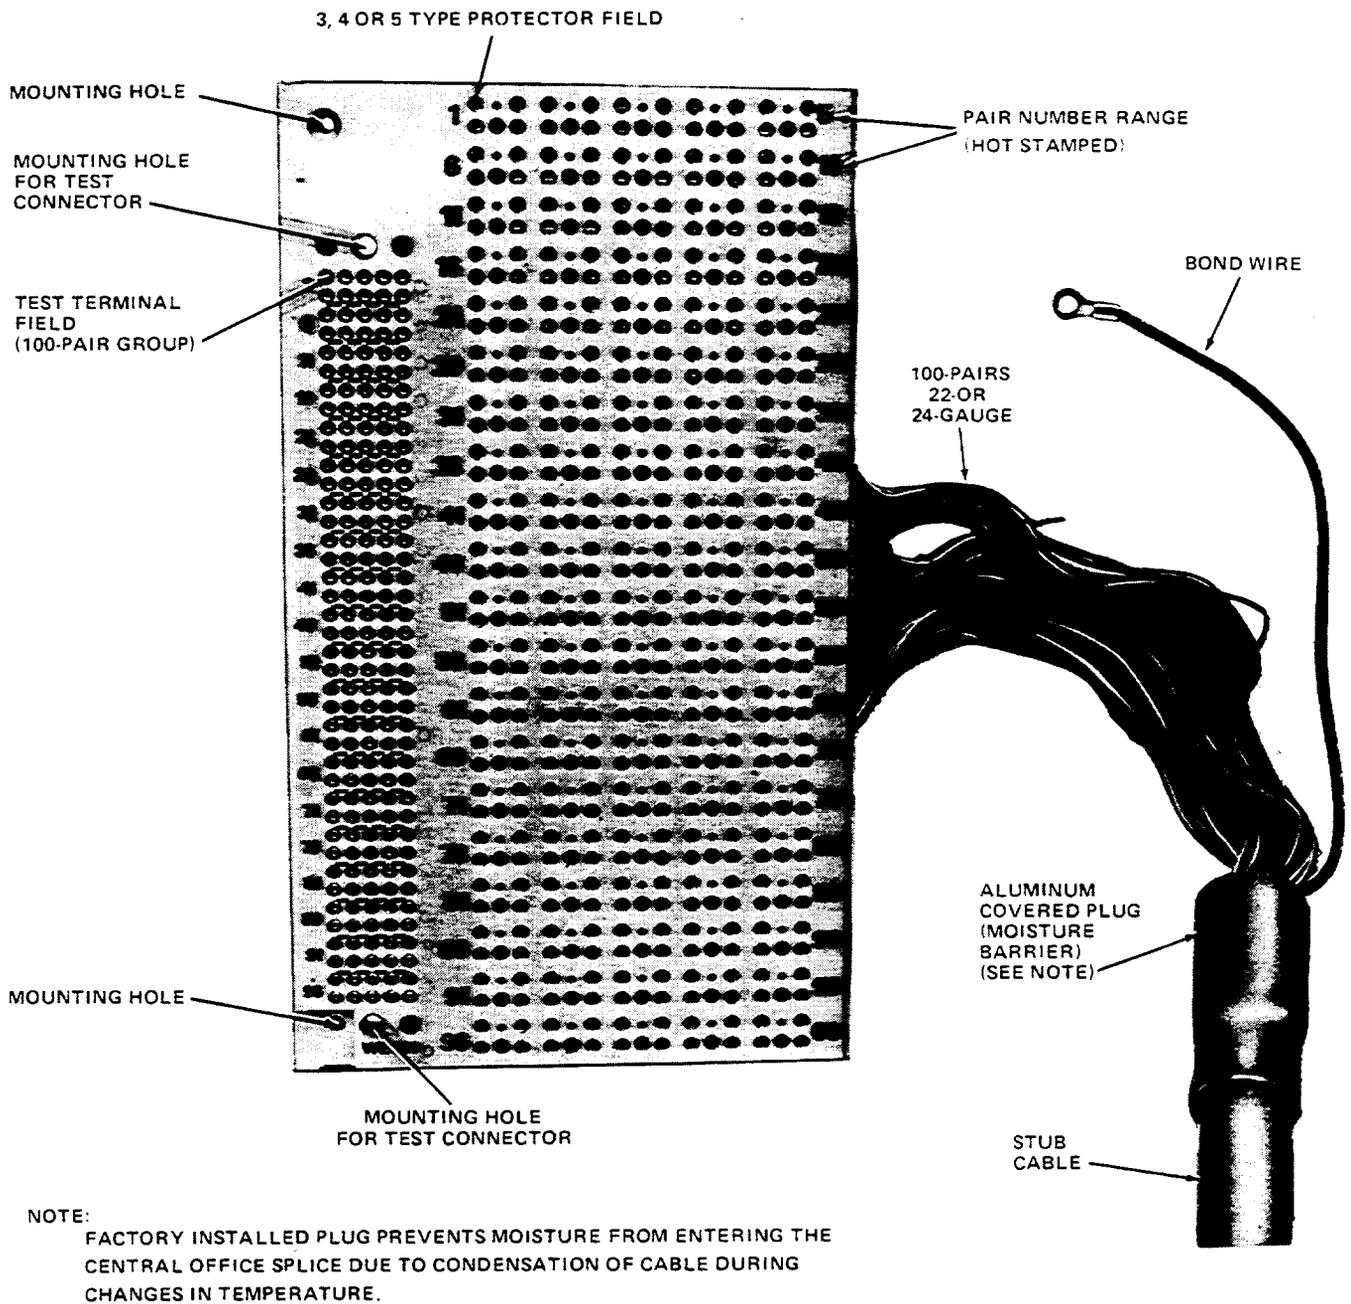

Figure 1—308-Type 1 Connector for use on High Density Modular Protector Frame
**2.02** The 308-type 1 connector (Figure 1) is a high density connector used to terminate outside plant cables on the High Density Modular Protector Frame, ED97898-31. It provides electrical protection for 100 cable pairs when equipped with 3-, 4-, or 5-type protector units. The connectors are available with 22 or 24 gauge reversible cable stubs in 30, 50, 80, 100, 150, and 200 foot lengths. A 100 pair test terminal field is provided. The P or R test connectors mate with the test field for automatic or pair-at-a-time testing.